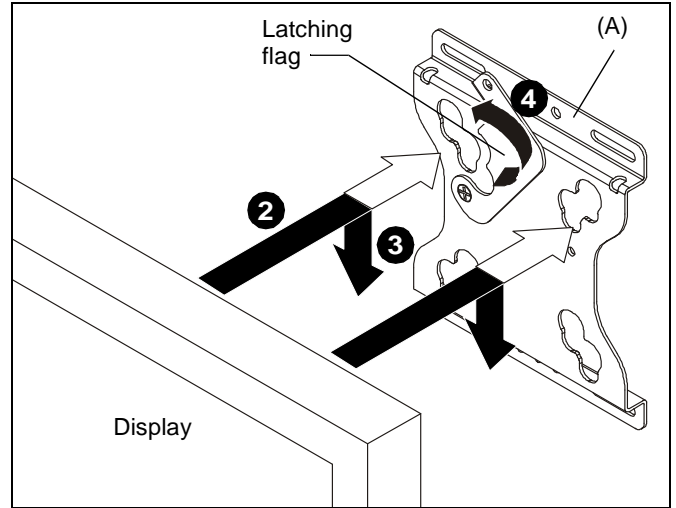

Figure 6
2. Lift and maneuver display such that all mounting buttons fit into openings on FSR (A). (See Figure 6)
3. Lower display firmly into place. Ensure each mounting button has fully seated in the opening (See Figure 6)
4. Close latching flag by rotating flag counterclockwise on FSR (A). (See Figure 6)